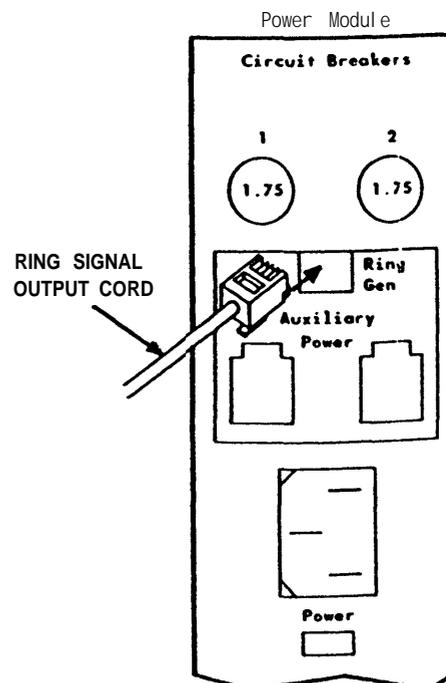

Figure 3
3. Connect ring signal output cord into RING GEN. jack on the Power Module. (See Figure 3.)